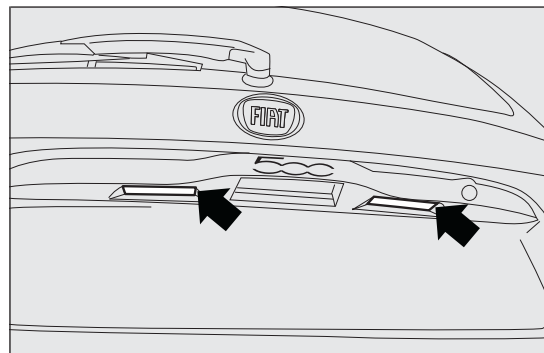

fig. 121
- ☐ operate in the point shown by the arrow fig. 121 and remove the lens A;